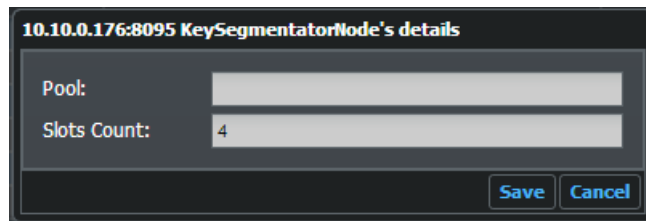

Fig. 10-222: Services Page Editing Node's Parameter
- 3 Modify the values for Pool and Slots Count in the Node Details dialog, see Figure 10-222: